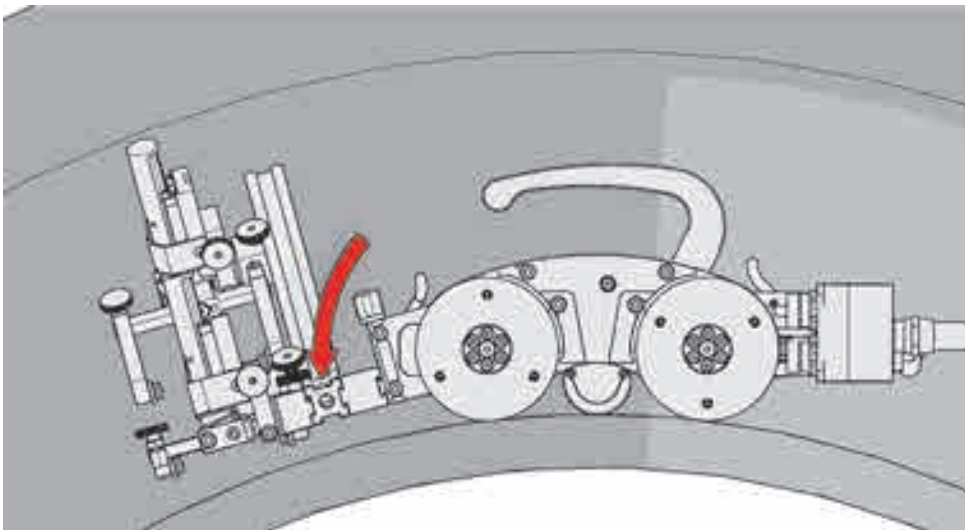

Figure 4-121 Align swivel mount with scan surface
3. Release the front swivel mount adjustment levers to align the swivel mount parallel to the scan surface (see Figure 4-121 on page 184).